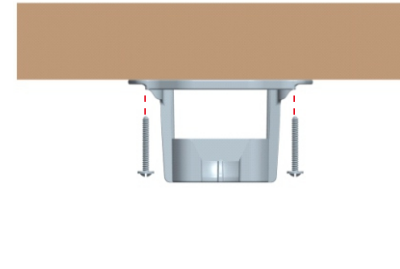

Fig 4.2
- Note:** The wooden ceiling beam must meet the tensile test of 30KG for installation, as shown in Fig 4.2. It is also possible to install the mounting bracket directly to the concrete ceiling and install four screws (not included) to the left and right corresponding holes of the bracket to lock the ceiling.